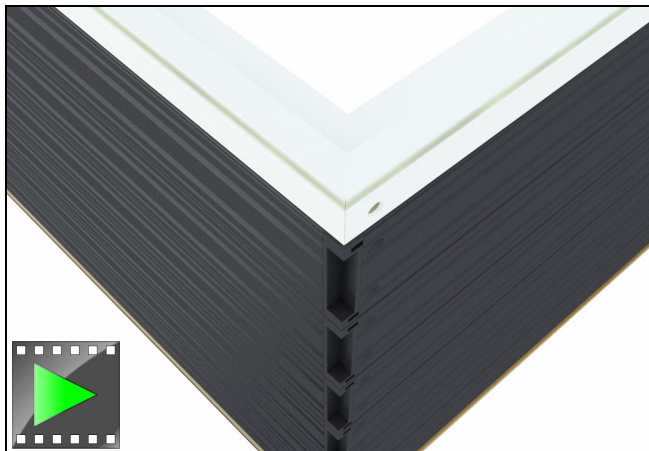

Figure 97
1. Align side jamb to head jamb. See figure 97.